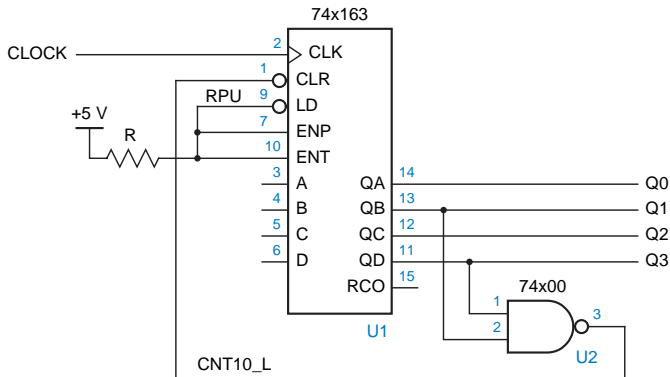

Figure 29: Using the 74x163 as a modulo-11 counter with the counting sequence 0, 1, 2, ..., 10, 0, 1, ...
- Fig. 29 shows a different approach for modulo-11 counting with '163